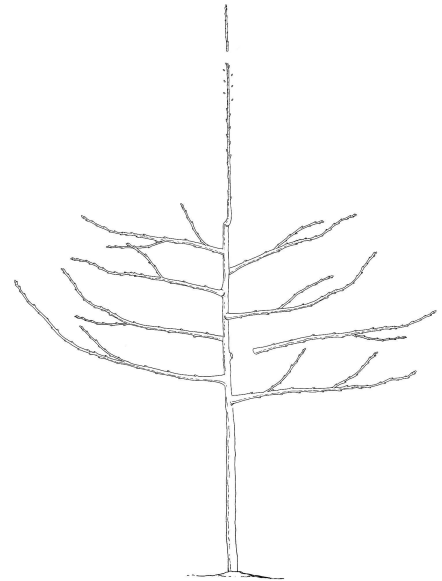

Figure 72
- Treat the leader as in the establishment year. Retain the top two buds and remove the next five to six buds (Figure 72).
- Encourage branches to grow throughout the entire length of the trunk in a spiral rather than allowing distinct whorls to develop (Figure 72).
- Promote adequate light penetration by thinning closely spaced branches (Figure 72).